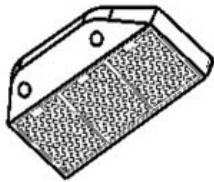

Fig.13
1. Using the screwdriver to turn the three screws at the front of bottom board. (Fig.13)